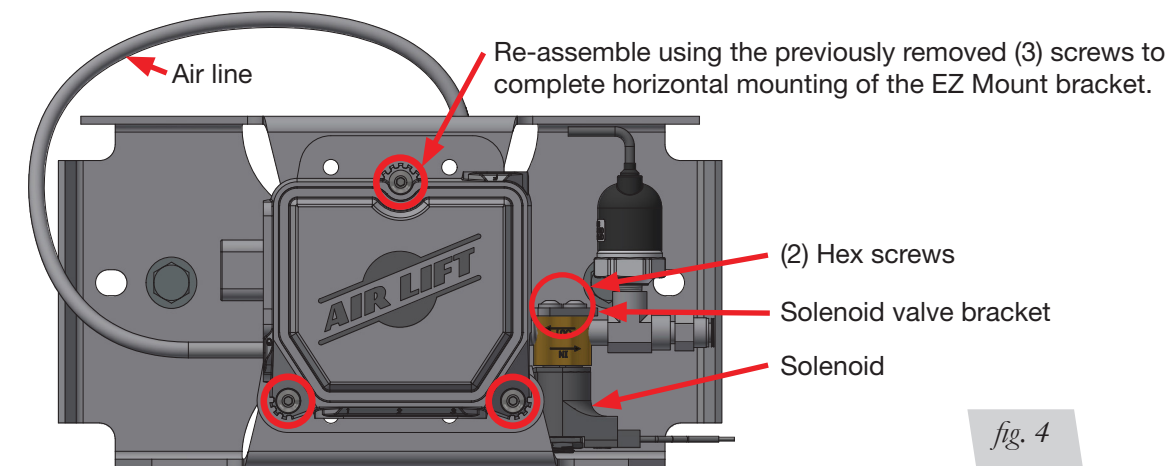

fig. 4
2. If you plan to mount the EZ Mount bracket horizontally (Fig. 4), you need to reposition the solenoid/filter bracket/air line into another orientation.
5. Remove the (2) hex screws from the solenoid valve bracket/assembly (Fig. 4) using a 3/32" hex wrench.
6. Use the other (2) hole pattern in the bracket to re-install the assembly in the proper orientation (Horizontal) (Fig. 4). Torque the screws to 23 in.-lbs.
7. Re-assemble the bracket and manifold to the EZ Mount bracket (as shown in Fig. 4) with the previously removed (3) screws. Torque the screws to 23 in.-lbs.
8. Cut a piece of air line in a 16-18" length and connect between the elbow fitting and the manifold as shown in Figure 4.